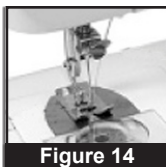

Figure 14
6. Feed the thread through the hole in the needle holder and then through the eye of the needle. (Figure 14) The threading is now complete, except for the bobbin.